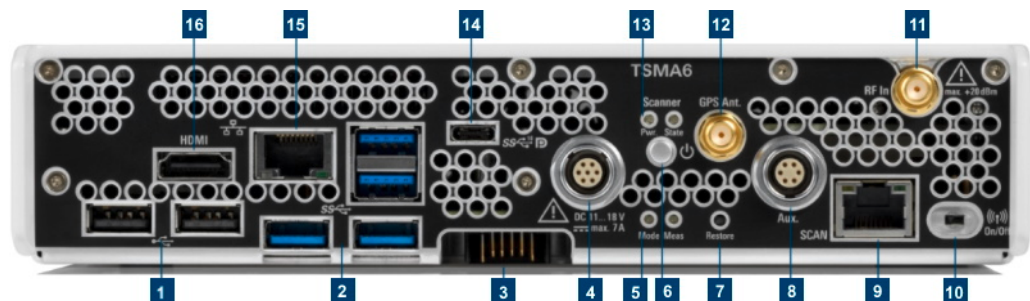

Figure 3-8: R&S TSM A6 - Rear Panel
- ▶ Connect test mobile phones to USB 3.0 / USB-C ports (see Figure 3-8 - 2, 14).
1. Ensure that the rating of the DC power supply network matches the requirements printed on the casing next to the DC input (see (8) in Figure 3-8).
See (1) in Figure 3-8.
See (2) in Figure 3-8.
See (3) in Figure 3-8.
See (4) in Figure 3-8.
See (5) in Figure 3-8.
See (6) in Figure 3-8.
See (7) in Figure 3-8.
See (8) in Figure 3-8.
See (9) in Figure 3-8.
See (10) in Figure 3-8.
See (11) in Figure 3-8.
See (12) in Figure 3-8.
See (13) in Figure 3-8.